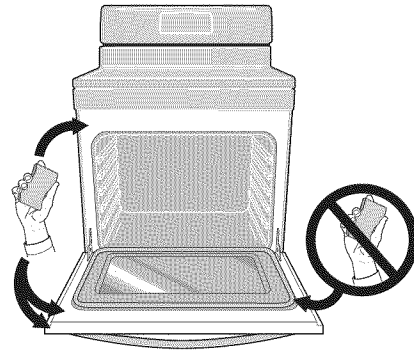

Figure 40: Do not clean the oven door gasket
12. Wipe oven cavity and bottom. Do not clean oven door gasket (See Figure 40).